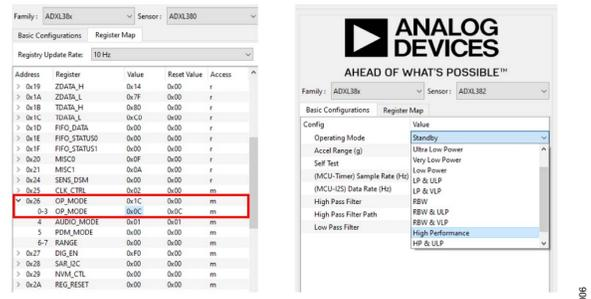

Figure 6. Operation Mode (High Performance)
**Figure 6** shows changing the operational mode from **Standby** to **High Performance** in both the **Basic Configuration** tab by using the dropdown menu and the **Register Map** tab by writing 0x1C to Register 0x26 (OP\_MODE). Refer to the Register 0x26 in the ADXL380 data sheet for more details on the different operation modes and registers.